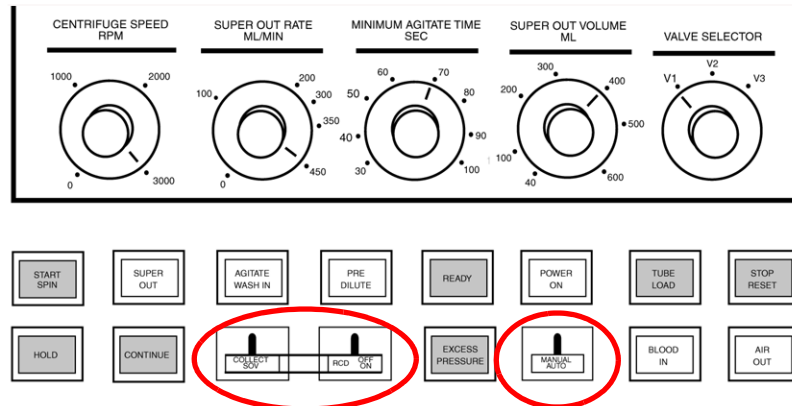

Figure 2-6: COBE 2991 operator controls (serial numbers lower than 2000 with a collect valve)
- COBE 2991s with serial numbers lower than 2000 and a collect valve are configured with interlocked COLLECT/SOV and RCD OFF/ON, and AUTO/MANUAL switches as shown in Figure 2-6.